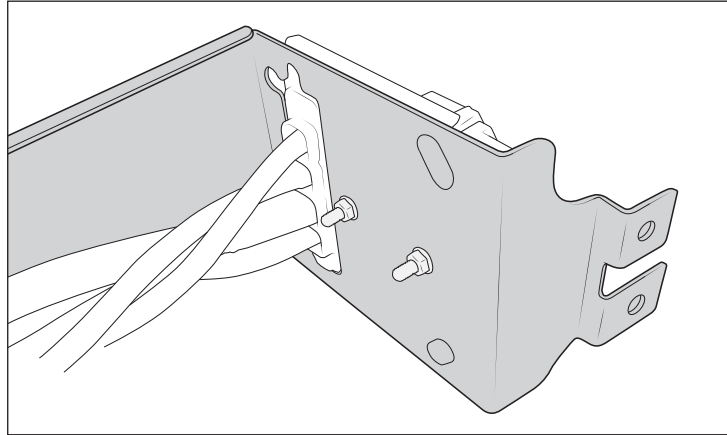

Figure 4
6. If using a Warn 9.5 xps winch, mount the controller to the bracket as shown using QTY 2 flange nuts provided. (fig. 4).